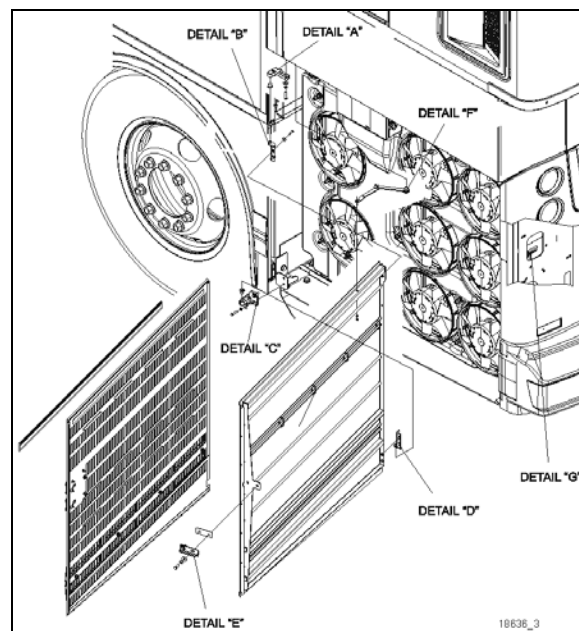

FIGURE 130: RADIATOR DOOR
6. Loosen the bolts, (details "A" & "C", Figure 130) holding the hinge to the vehicle structure to shift the door "LEFT or RIGHT".
7. Loosening the bolts (details "B" and "D", Figure 130) allows the door to be shifted "UP or DOWN".